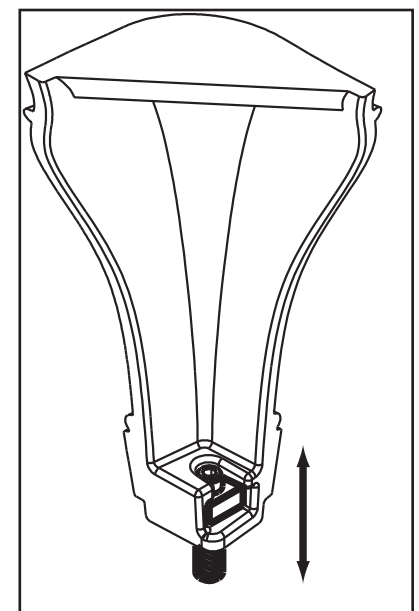

Figure 21.4
10. Use allen wrench to adjust legs up and down to desired level (**Figure 21.4**).